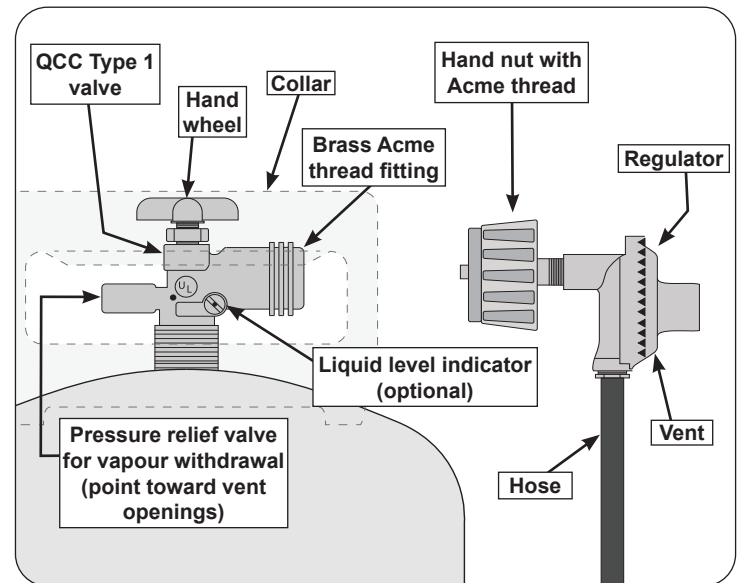

Fig. 9-1 Type I Acme thread coupler
- d. The cylinder used must include a collar to protect the cylinder valve. The cylinder supply system must be arranged for vapour withdrawal. See Fig. 9-1.
- e. When used with a cylinder, the gas supply system must be used with a pressure regulator. The pressure regulator and hose assembly (**not supplied**) used must match the specification for Type I by ANSI Z 21.58/CGA 1.6 and must comply with UL 144 as a part of the self-contained LP gas supply system (see Fig. 9-1).
**To disconnect:** Turn the hand nut counterclockwise until detached (Fig. 9-1).